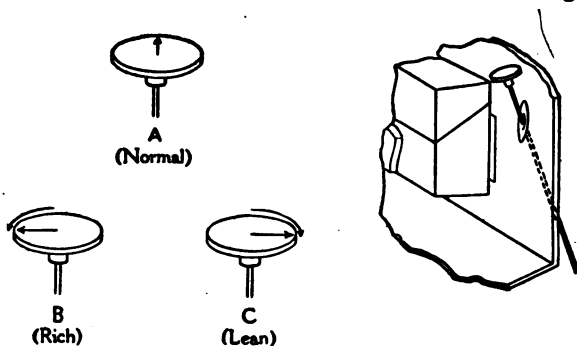

Figure 12.—Dash Adjustment for Carburetor.
*Carburetor Adjustment.*—There is but one adjustment provided for a Ford carburetor, this being the amount of liquid fuel as controlled by the needle valve. The needle valve may be turned one way or the other by means of a handle or knob on the dashboard of the car, and just at the right of the coil box. The appearance of one type of adjustment is shown in Figure 12.